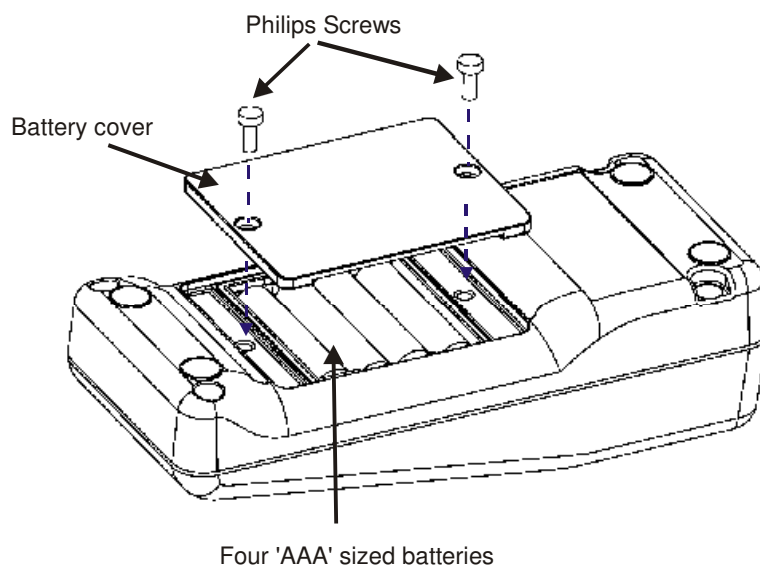

Figure 3: Battery Installation
- 1 Use a Philips screwdriver to remove the two screws holding the battery cover. See Figure 3.